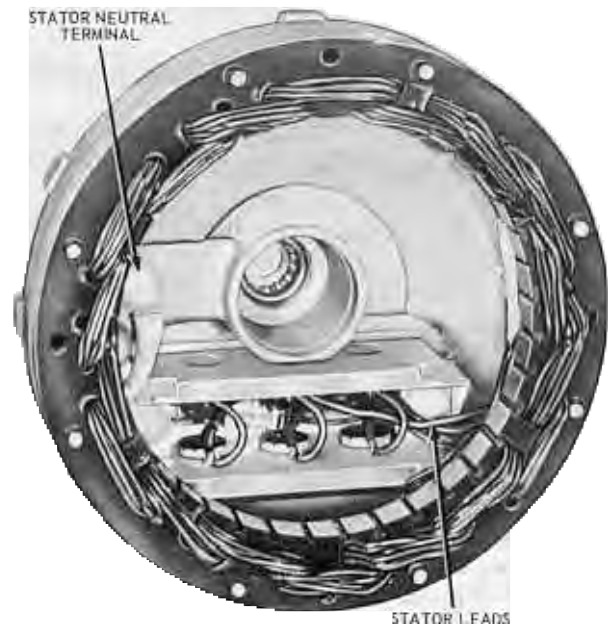

FIG. 4—Stator Lead Dress
6. Position the brush end housing over the diode plate assembly and install the insulators, washers and terminal nuts. The condenser ground lug is mounted under the ground terminal nut. Make certain that the stator leads are positioned out of the way of the rotor (Fig. 4).